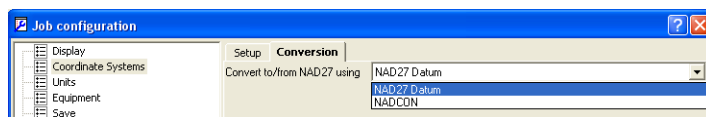

**Figure 2-28. Geoids List and Properties Dialog Box**
- Right-click on the **Geoids List** dialog box to display a pop-up menu, then click **Properties** to display the **Properties** dialog box (Figure 2-28).